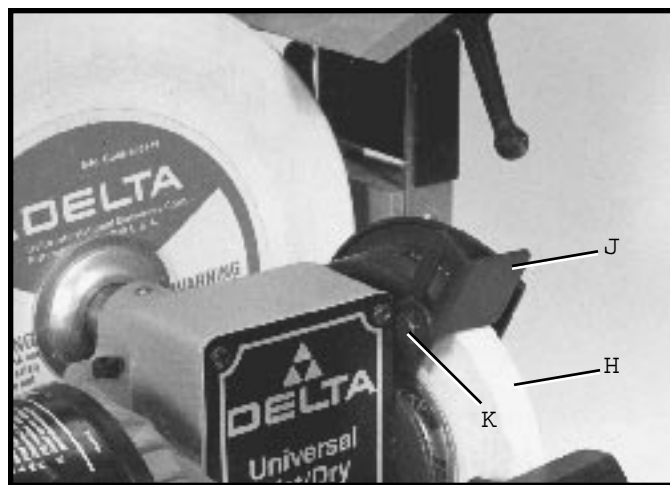

Fig. 9
As the five inch grinding wheel (H) Fig. 9, wears down due to extended use, the spark deflector (J) should be adjusted downward with it, so it is always set close to the grinding wheel for maximum operator safety.
To adjust the spark deflector, loosen screw (K) Fig. 9, position the spark deflector (J) close to the surface of the grinding wheel, and retighten screw (K).